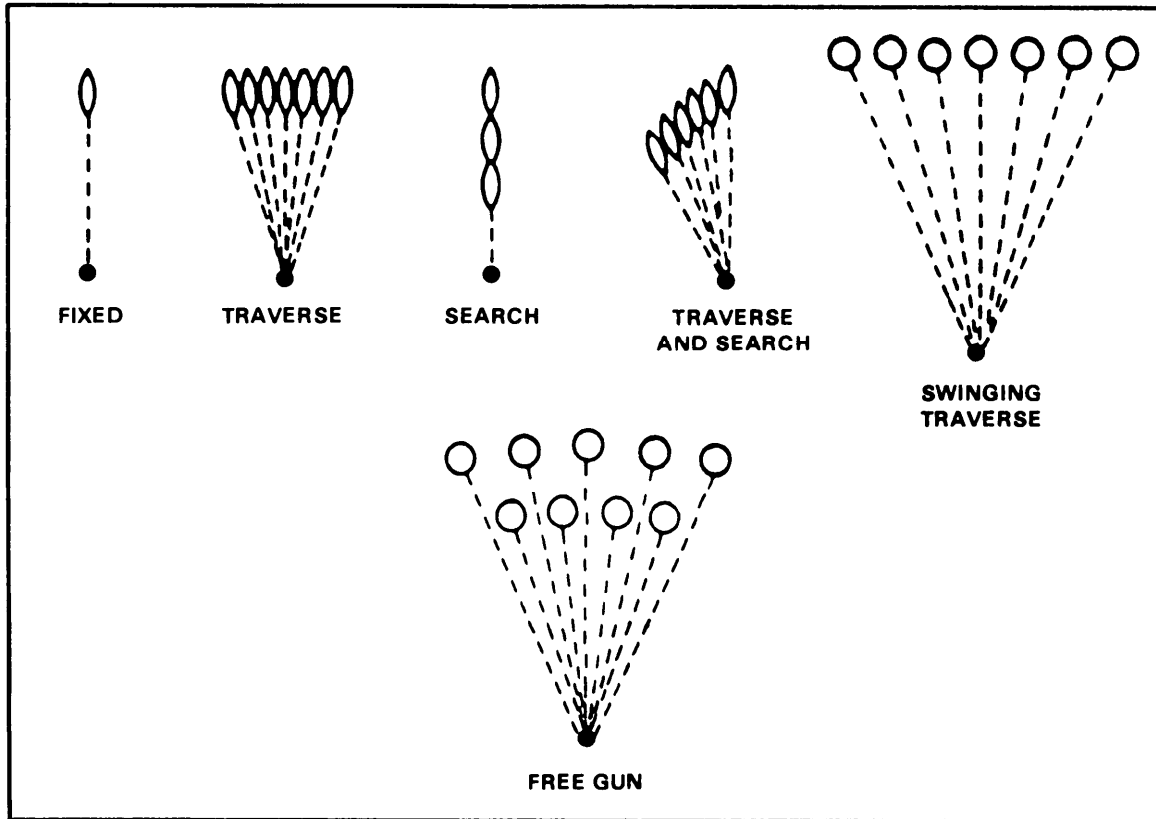

Figure 6-3. Classes of fire with respect to the MK 19.
c. Respect to the MK 19. This includes six ways in which fire may be manipulated (Figure 6-3).
(1) Fixed. This is fire delivered against a target with one aim point, which concentrates the beaten zone.
(2) Traversing. This is fire moved from left to right or right to left, with no range change. It may be used against frontal or flanking targets.
(3) Searching. This is fire directed against a deep changes are not. Searching fire is used against enfilade targets.
(4) Traversing and searching. This is a combination of traversing and searching fires used against a target with depth and width (most likely an oblique target).
(5) Swinging traverse. This fire is slightly different from traversing and searching. Although it is delivered